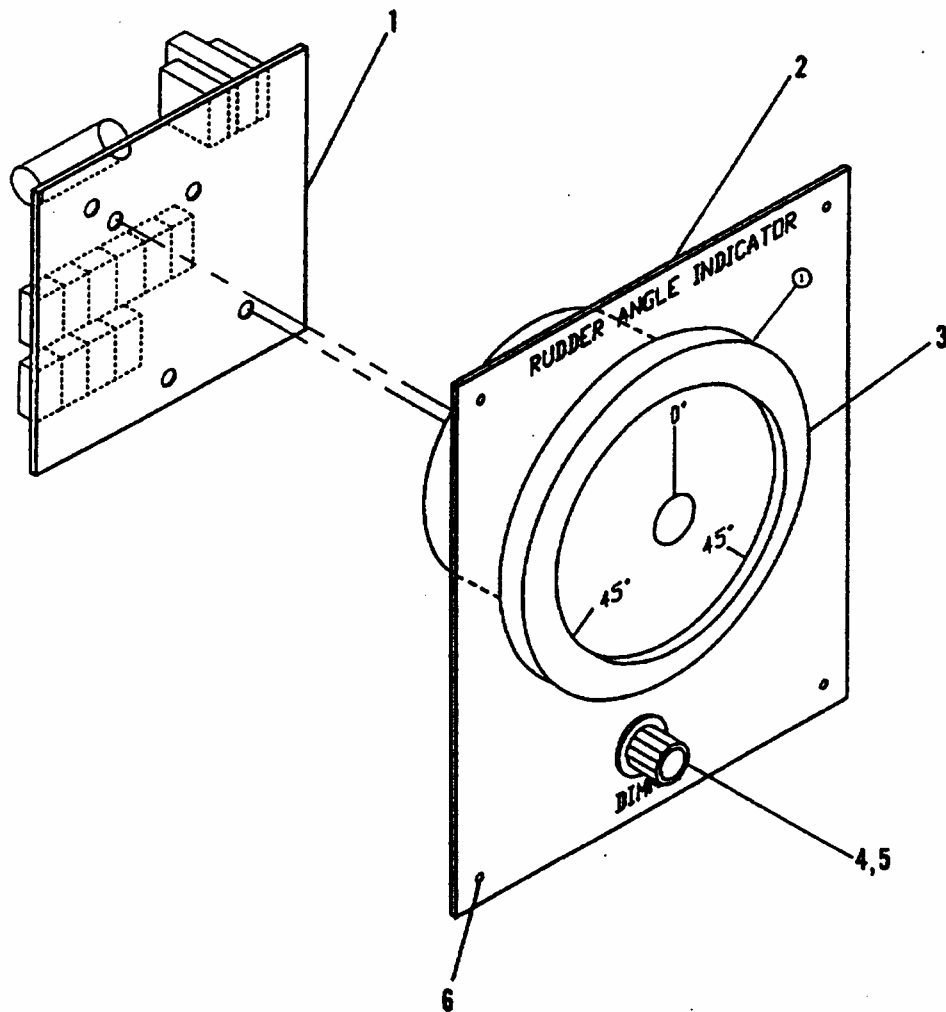

Figure 3-106.1. Rudder Indicator
3-118.1. Replace/Repair Rudder Indicator (Figure 3-106.1)
- a. Loosen two latching screws (3, Figure 3-106.1) securing starboard side access panel (2, Figure 3-106.1) to pilothouse control console (1, Figure 3-106.1).
- d. Remove four screws (6).
- e. Remove rudder indicator (2).
- a. Install rudder indicator (2) into control console.
- b. Secure with four screws (6).
- c. connect wiring to rudder indicator (2) and remove tags.
- d. Close access panel (2, Figure 3-106.1) on control console (1, Figure 3-106.1) and secure with two latching screws (3, Figure 3-106.1).